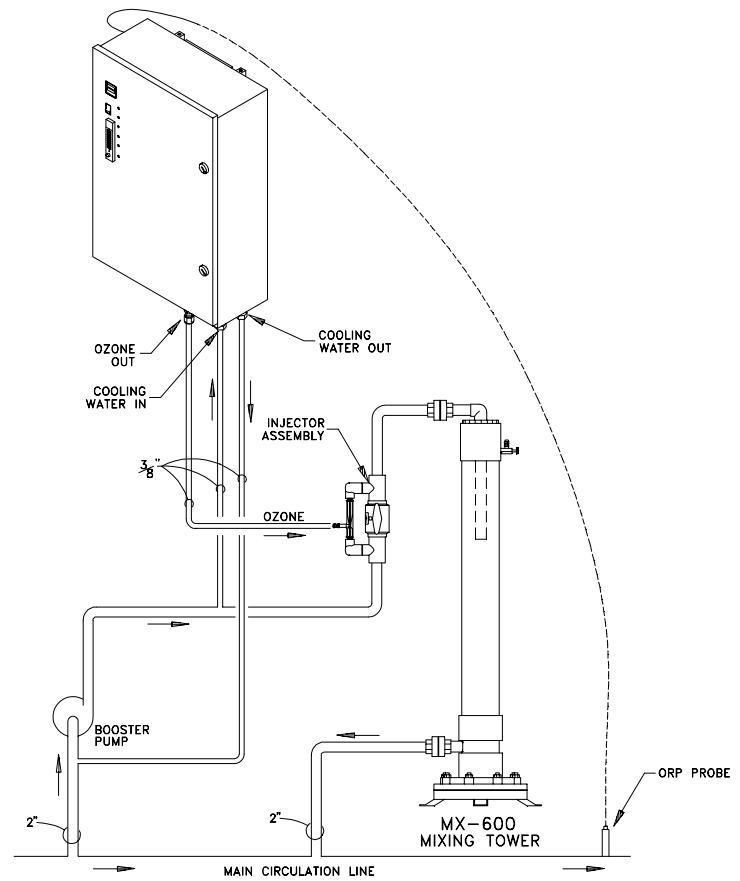

Figure 2: Plumbing Schematic
2. Connect opposite end of ozone tubing to injector suction port. (Suction port fitting: 3/8" stainless steel compression fitting.) **See figure 2.**
1/4" FPT connections are supplied on the generator. **See figure 2.** Be sure that the tubing is appropriately matched with the marked inlet and outlet ports. Carefully match and connect to water plumbing as shown in figure 2. Alternate method using connections at injector may be used.
The sensor should be placed in the water stream at a point downstream from the ozone injector. **See figure 2.**